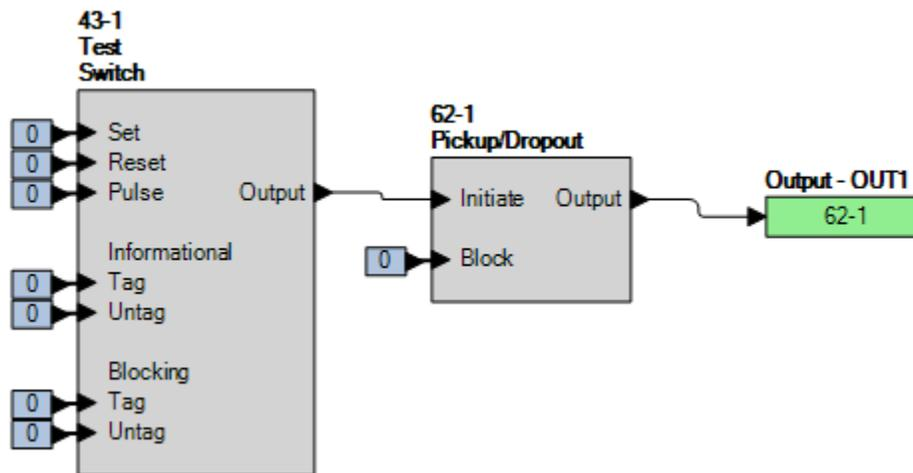

Figure 49-1. BESTlogicPlus Settings
Step 2: Use BESTCOMSPPlus to configure the BESTlogicPlus programmable logic shown in Figure 49-1.
- Step 1: Use BESTCOMSPi^{us} to send the operational settings in Table 49-4 to the BE1-700. Retain the logic settings from Figure 49-1.
Step 1: Use BESTCOMSPlus to send the operational settings in Table 49-5 to the BE1-700. Retain the logic settings from Figure 49-1.